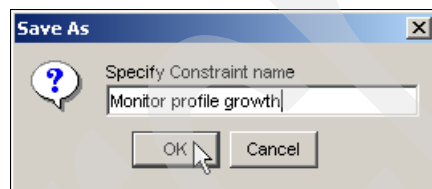

Figure 2-43 Save Constraint name
6. Save the new constraint by clicking Ctrl+S and give the new constraint a meaningful name as in Figure 2-43. Click **OK**.